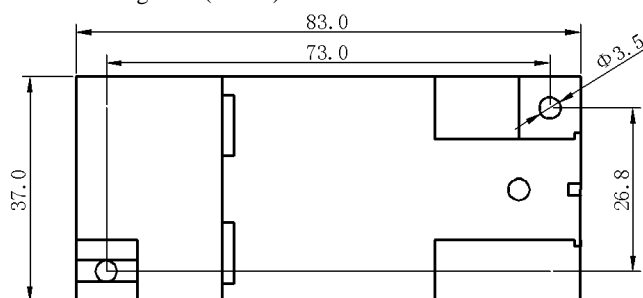

Figure 3, S3 Dimension drawing of outline installation
DIN35 rail mounting or screw mounting, the installation size shown in Figure 3 (in mm)
- ①The transducer fixed on the side of the card slot and hook on the mounting rail;
- ②Pull the spring pin down;
- ③Clip the transducer mount on the mounting rail;
- ④Release the spring pin and clip the transmitter on the mounting rail.
- ①4mm diameter hole in the fixed plate according to the screw hole position shown in Fig. 3;
- ② Insert the screw smaller than $\Phi 3.5$ into hole to secure it.